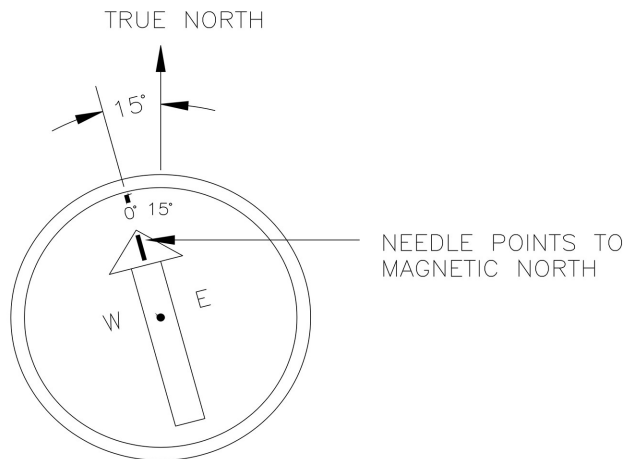

Figure B-3. Declination angles west of true north are subtracted from 0 to get true north
Declination angles east of true north are reported as positive values and are subtracted from 360 (0) degrees to get true north as shown in Figure B-2 (p. 65). Declination angles west of true north are reported as negative values and are subtracted from 0 (360) degrees to get true north as shown in Figure B-3 (p. 65). Note that when a negative number is subtracted from a positive number, the resulting arithmetic operation is addition.